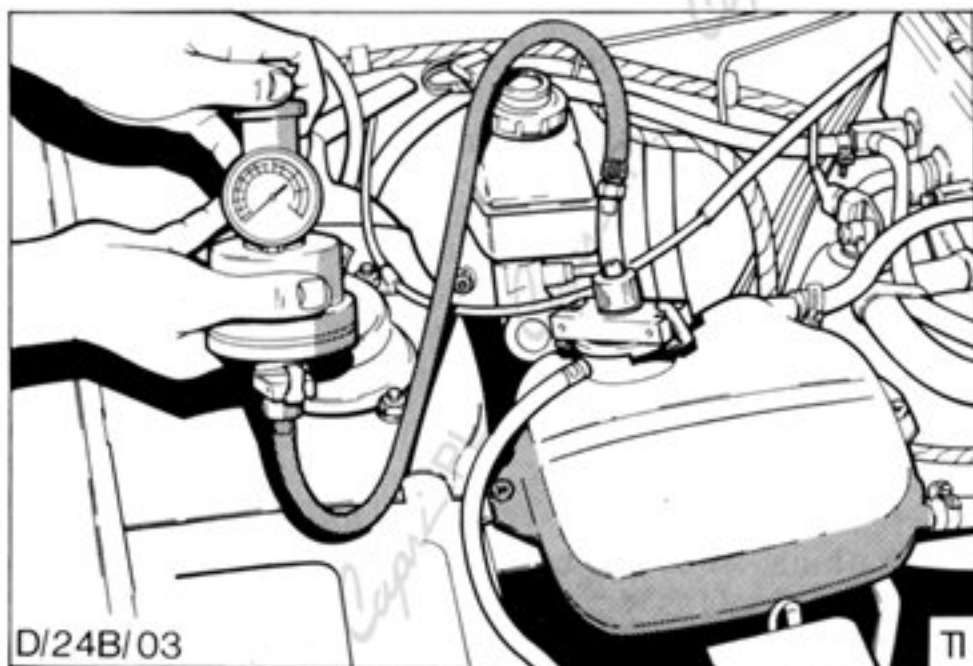

Fig.5. Pressure tester connected to degas filler neck.
3. Using suitable pressure tester with correct adaptor, connect it to degas tank filler neck. Ensure tester creates good seal, Fig.5.